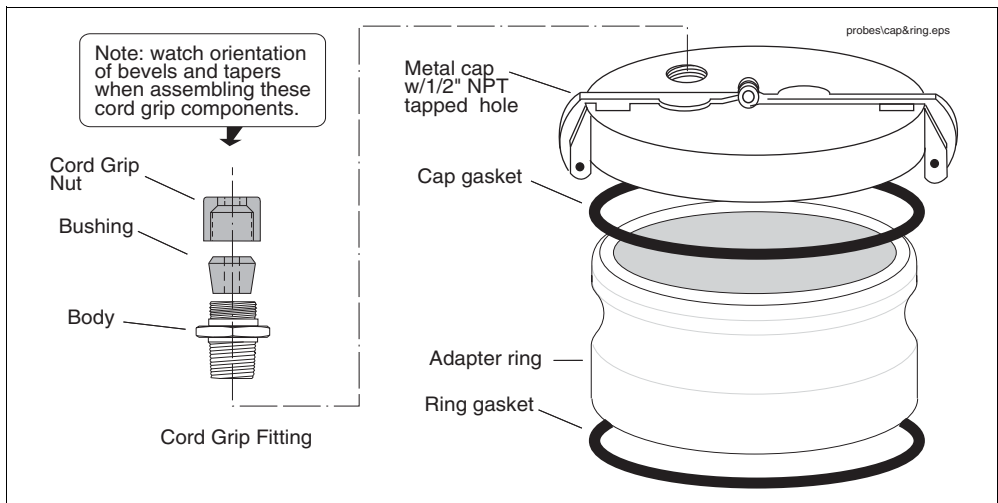

Figure 7. Metal Cap And Ring Kit
This riser cap kit contains an adapter ring which screws onto the 4"NPT riser and a quick-release metal cap which clamps onto the ring (Table 5). The cap comes drilled and tapped with a cord grip (Figure 7).
2. If you are installing the metal cap and adapter ring (see Figure 7 on page 10), screw the ring onto the 4" riser until the gasket contacts the pipe, then use a pipe wrench to tighten it an additional 3/4 turn. Push the cable through the metal cap and cord grip, then clamp the cap onto the ring.
2. If you are installing the metal cap and ring (see Figure 7 on page 10), screw the ring onto the 4" riser until the gasket contacts the pipe, then use a pipe wrench to tighten it an additional 3/4 turn. Using UL-classified pipe sealant (suitable for the fuels involved), screw the cord grip fitting into the tapped hole and tighten. Place the cord grip bushing in the fitting. Discard the cord grip nut and loosely screw the adapter Nut from the AST kit onto the cord grip fitting (see Figure 3 on page 6). Push the cable through the metal cap, bushing, and adapter nut, then clamp the cap onto the ring. Make sure there is a minimal amount of slack between the probe and cap, then tighten the adapter Nut until the cable is held firmly.